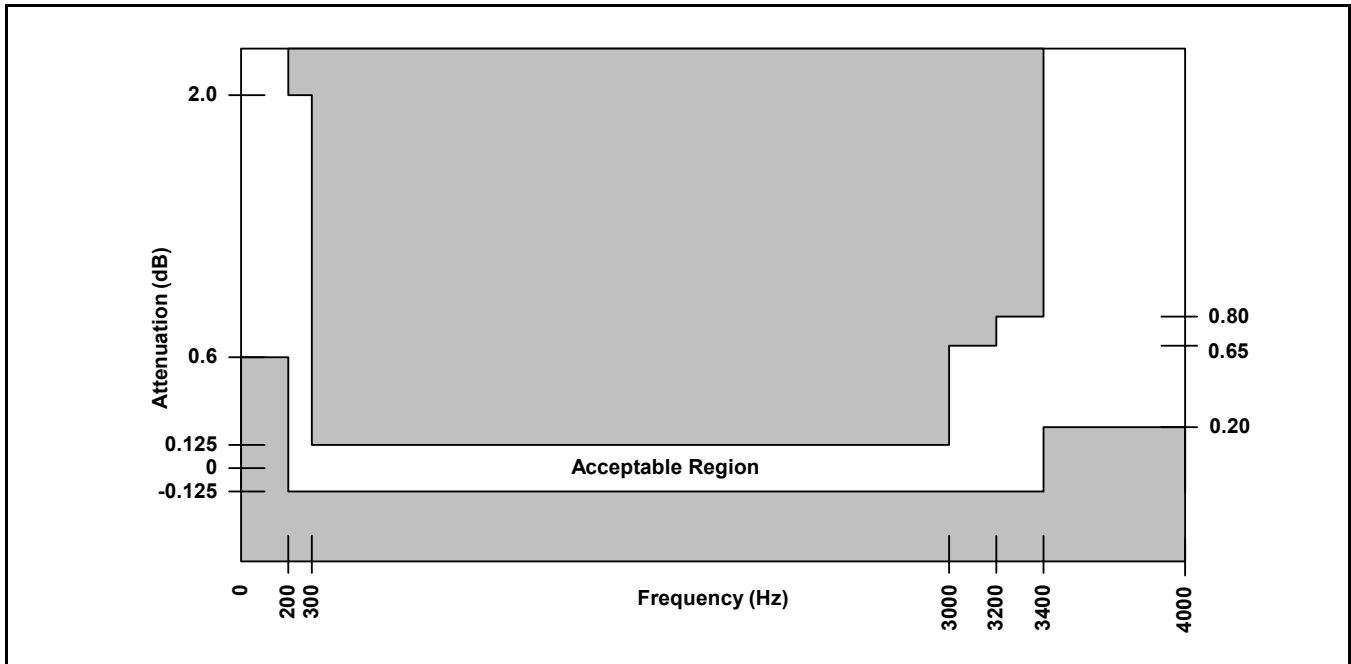
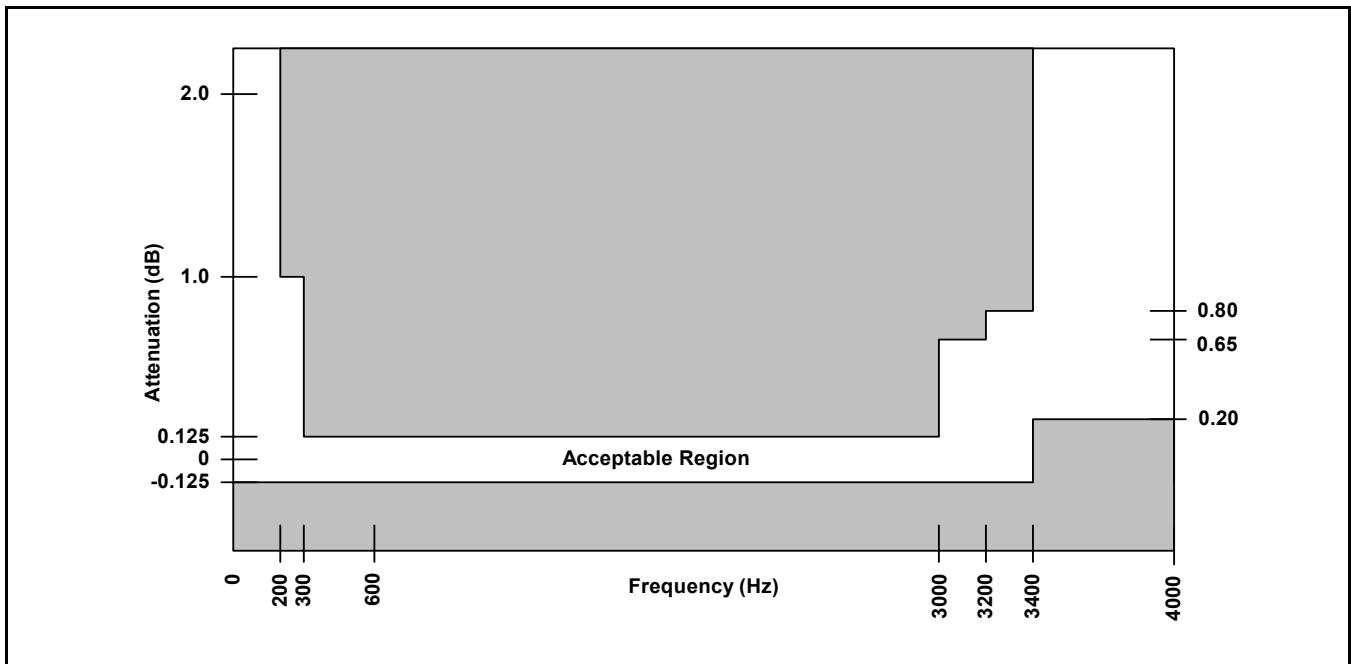

Figure 22 - Transmit Path Attenuation vs. Frequency
Figure 23 - Receive Path Attenuation vs. Frequency
- See Figure 22 and Figure 23.*
The signal attenuation in either path is nominally independent of the frequency. The deviations from nominal attenuation will stay within the limits shown in Figure 22 and Figure 23. The reference frequency is 1014 Hz and the signal level is  $-10$  dBm0.